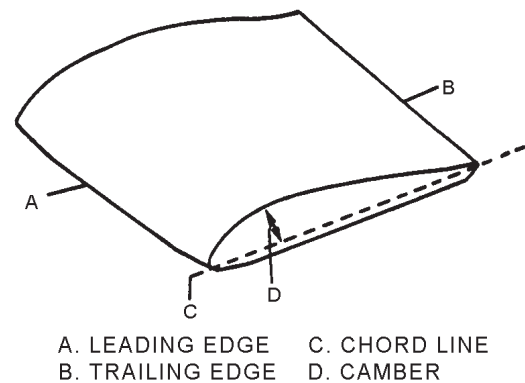

Figure 3-3.—Airfoil terminology.
- Leading edge* The front edge or surface of the airfoil (fig. 3-3).
- Trailing edge* The rear edge or surface of the airfoil (fig. 3-3).
- Chord line* An imaginary straight line from the leading edge to the trailing edge of an airfoil (fig. 3-3).
- Camber* The curve or departure from a straight line (chord line) from the leading to the trailing edge of the airfoil (fig. 3-3).